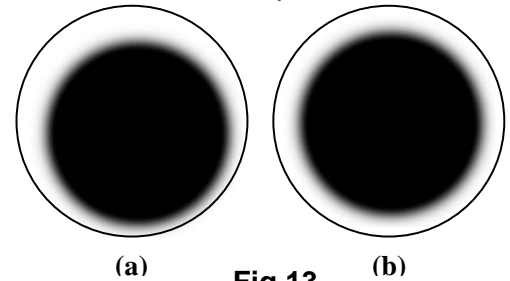

Fig.13
- Turn the condenser focus knob to lower the condenser till a dark spot showed in the viewing field as shown in **Fig. 13 (a)**.
- Turn the condenser translational centering screws to move the dark spot to the center as shown in **Fig. 13 (b)**.